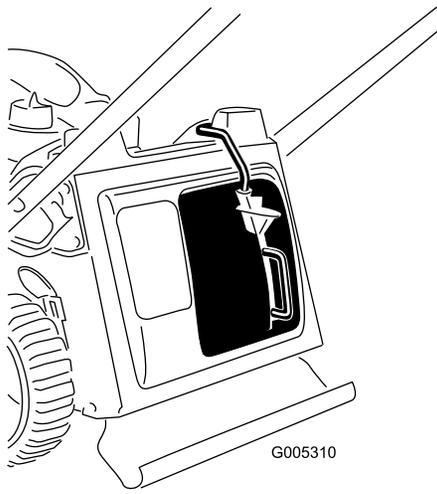

Figure 10
3. Release the button on the lever and ensure that the top of the lever lies fully in the switch channel (Figure 10). **If the top of the lever is not in the switch channel, your machine will not start!**